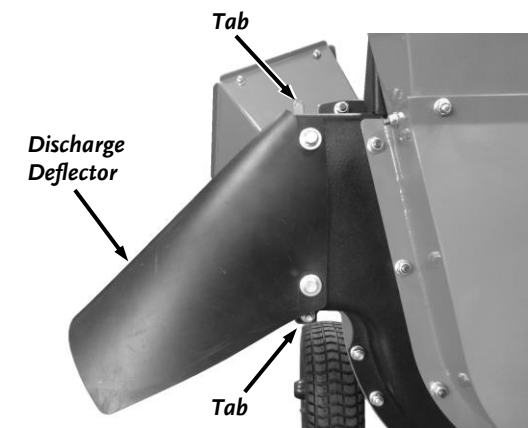

Figure 15
1. Install the open end of the Collection Bag over the rubber Discharge Deflector and hook it onto the metal housing tabs above and below the Discharge Deflector (**Figure 15**).